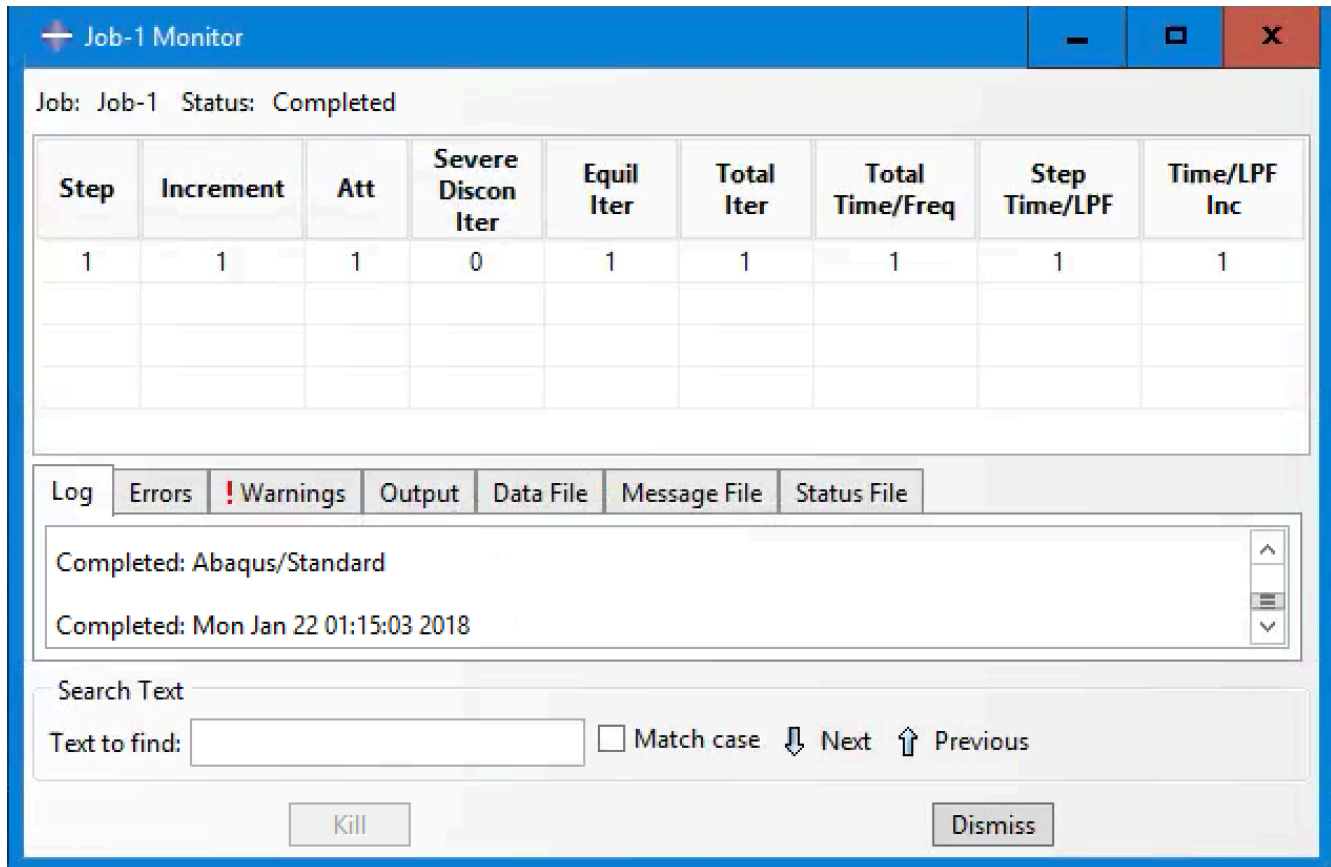
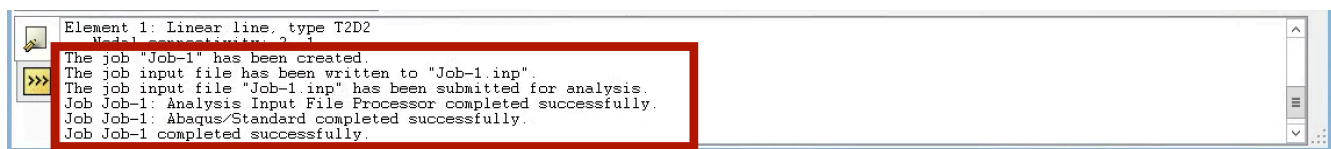
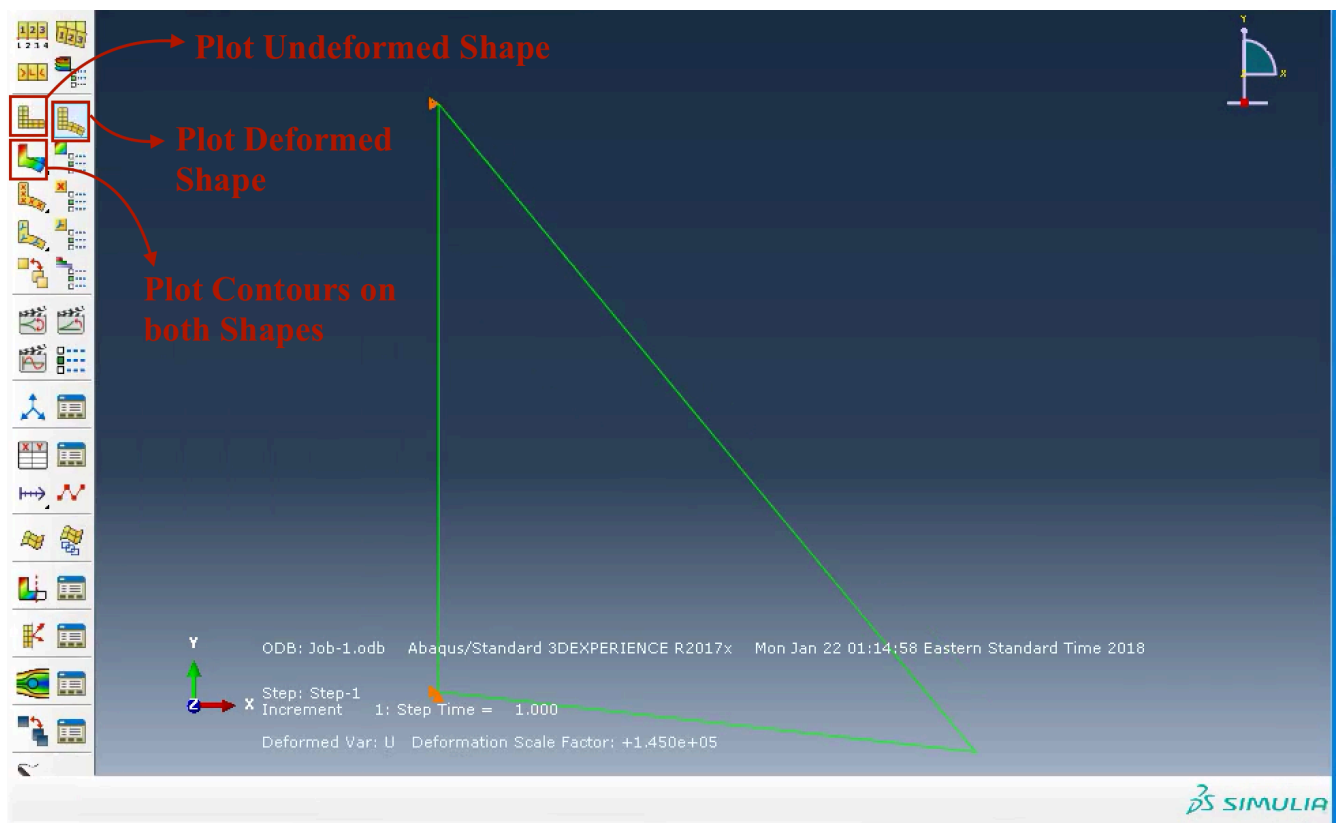

Figure 36 Monitoring the job analysis
Figure 37 Messages on message area notifying a successful analysis
Figure 40 Visualization toolbox and output results (displacement)
- Now, the model is ready to be analyzed. It is also a good idea to run a **Data Check** to make sure that there is no error in the model because of incorrect or missing data. Then, click on **Submit** to run the analysis. During the analysis, Abaqus/Standard sends some updates about the analysis status to Abaqus/CAE to allow you to monitor the progress of the job. Such information is accessible by clicking on the **Monitor** button to appear the Monitor dialog box (Figure 36). Besides, the program provides you with some updates about the status of the job in the message area (Figure 37)
- Once the analysis is completed, you can click on the **Results** button (Figure 37) to move to the **Visualization** module. There are several tools on the associated toolbox to view your model and the results of your analysis. You may click on **plot Deformed Shape** or **Plot Contours on Deformed Shape** to view the displacements and stresses (Figure 40 and 41). For instance, a deformed shape displays the shape of model according to the values of nodal variables such as displacements. (You can find detailed information in the following link: <http://abaqus.software.polimi.it/v6.14/books/usi/pt05ch40.html>)